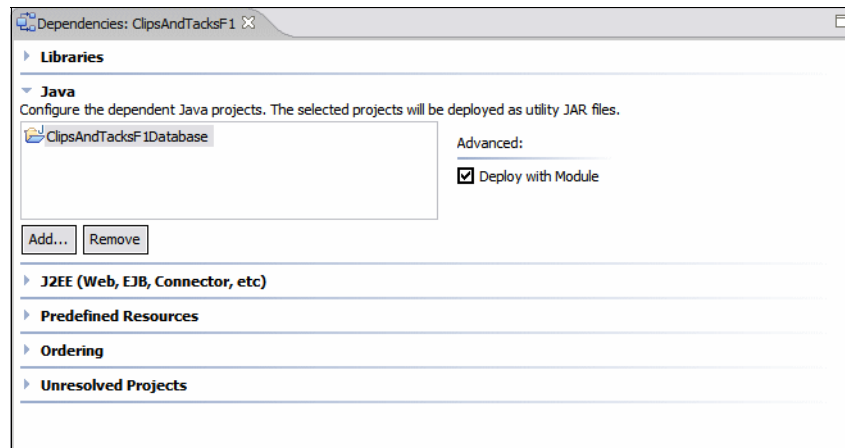

Figure 10-45 Dependencies Editor: Java section
- ▶ Select the `ClipsAndTacksF1Database` project to verify that *Deploy with Module* is selected (Figure 10-45).